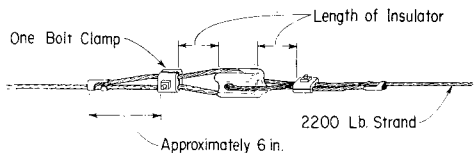

Fig. 8—Installing Strain Insulator in 2.2M Strand
- (b) **2200 Pound Strand:** Use a one-bolt guy clamp on each side of the insulator. (See Fig. 8.)